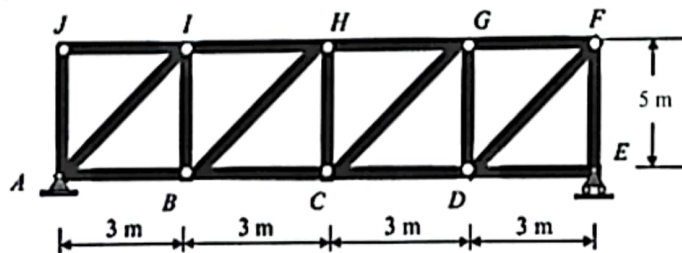

Fig. 6
| b) Draw the Influence diagram of $F_{BC}$ , $F_{BH}$ , and $F_{CH}$ for the following structure shown in Fig. 6. | (24) | 3 |